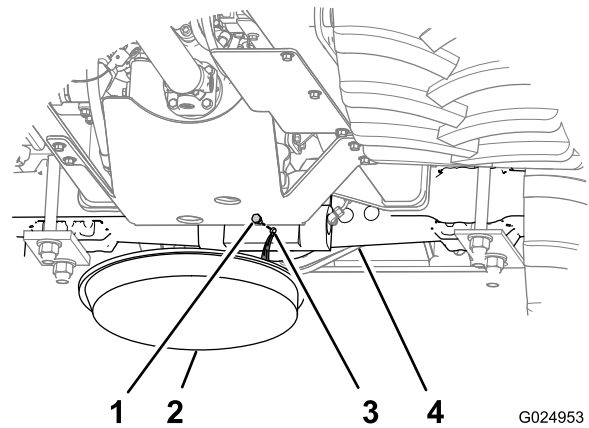
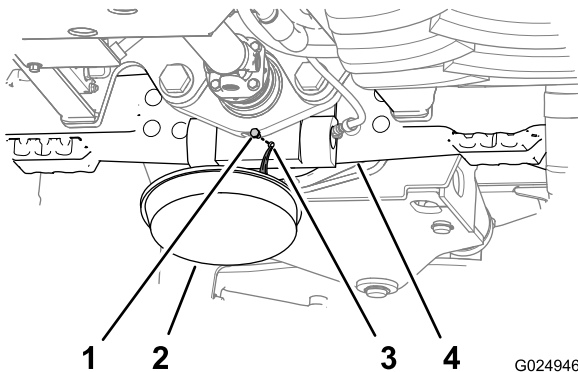

Figure 89
Figure 88
- Place a drain pan under the pinion housing of the axle (Figure 88 and Figure 89).
- Remove the plugs from the sight port and the drain port of the pinion housings for the axles (Figure 88 and Figure 89).